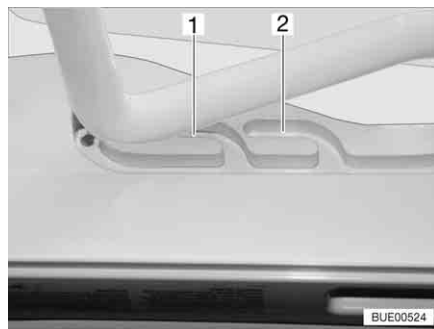
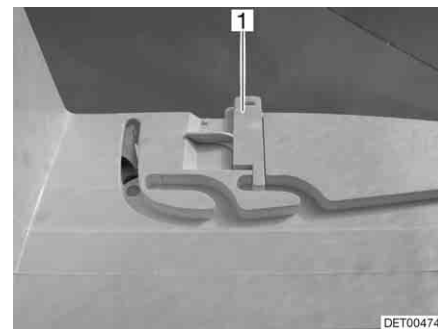

Fig. 89 Heki skylight in ventilation position
Fig. 90 Ventilation position locking mechanism
The Heki skylight can be put in two ventilation positions: Bad weather position (Fig. 89,1) and central position (Fig. 89,2). Depending on the model, the skylight can be locked in the central position with both left and right latches (Fig. 90,1) on the skylight frame.
- Push the bar slightly upwards and into the selected guide (Fig. 89,1 or 2) and lock if necessary.